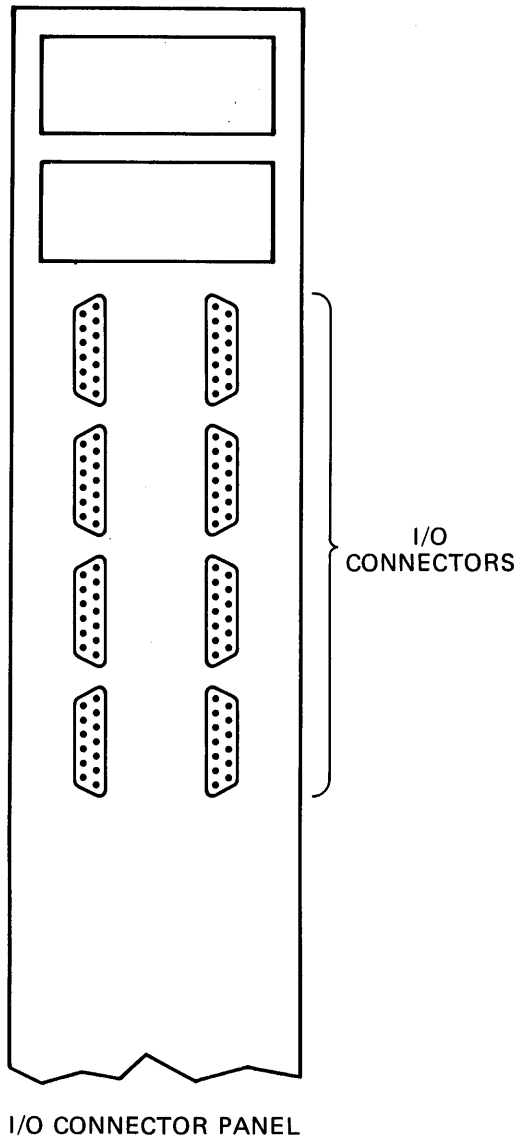

Figure 3-5 I/O Connector Panel
- The second cable connects to the primary modem port on the rear of the monitor and one of eight ports on the input/output (I/O) connector panels. There can be two I/O connector panels in the cabinet: one on the right and one on the left. The I/O connector panels are shown in Figure 3-5.